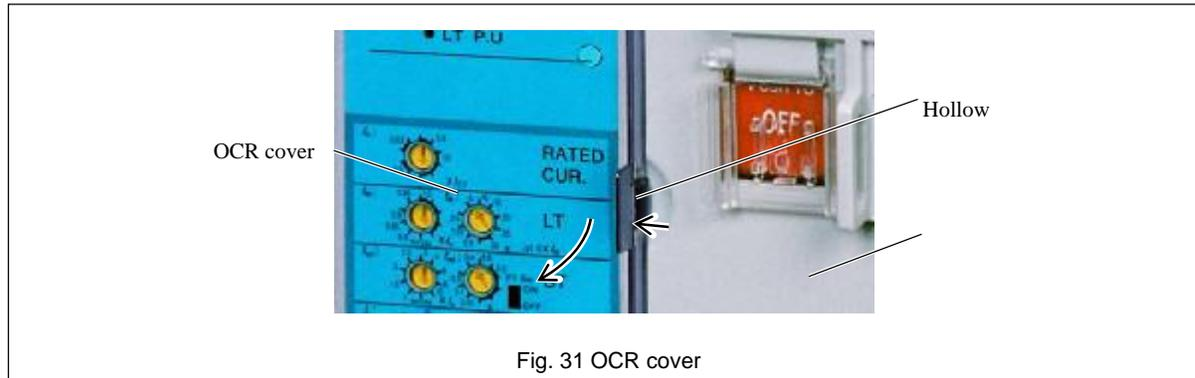

Fig. 31 OCR cover
- 2) Push the right end of the OCR cover to the left at the hollow on the front cover to unlatch and open the OCR cover. See Fig. 31.